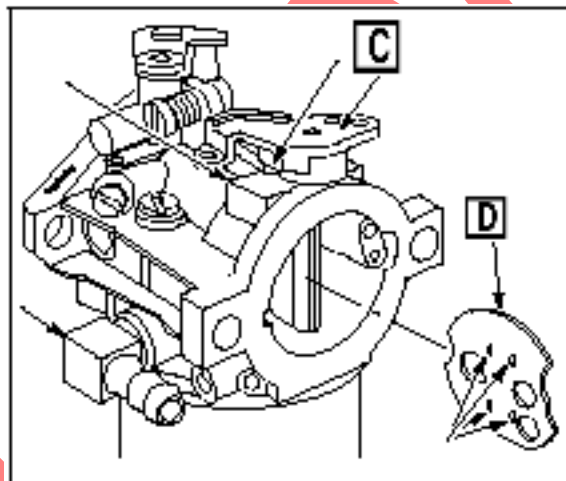

Fig. 125
10. Rotate the choke shaft ([C] Fig. 125) to wide open.
11. Pull the choke plate ([D] Fig. 125) out of the choke shaft slot.